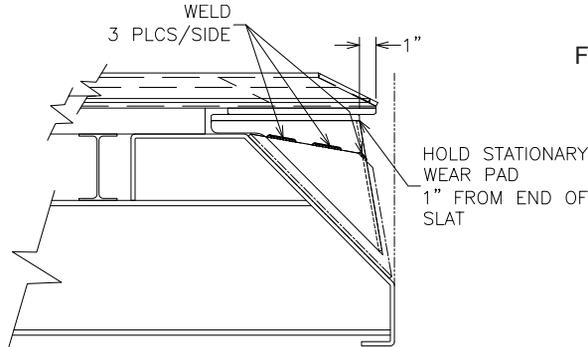

Figure 27
c. Weld the formed angle mounts to the support assembly, making sure that the wear plates are in contact (Figure 27).